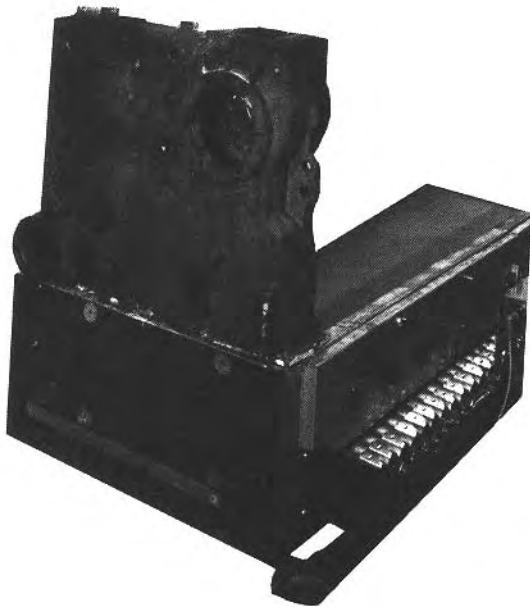

FIG. 4
3. SET LEFT END SECTION ON BASE so that locating lugs on bottom of section go inside Front and Rear Base Frames. Slide section on base until these lugs strike High Base End Panel at left end of Base, see Fig. 4. (Note – if High Base End Panel is at right end of Base, section assembly must start with Right End Section). Left end sections are identified by "LEH" cast on section; Right End Sections are identified by "REH" cast on section.
4. CLEAN NIPPLES AND NIPPLE PORTS thoroughly with a de-greasing solvent. Use the Loctite® #592 supplied to lubricate the nipples and nipple ports. Apply the lubricant to the nipples and nipple ports, then use a brush to disperse it evenly around the nipples and the nipple ports. Use approximately 25 ml of Loctite® #592 per flueway [(1) 7" and (2) 3" nipples and their (6) corresponding nipple ports]. Use Nipple Gauge furnished – follow instructions included with gauge to set nipples. USE ALL PRECAUTIONS TO AVOID COCKED NIPPLES.